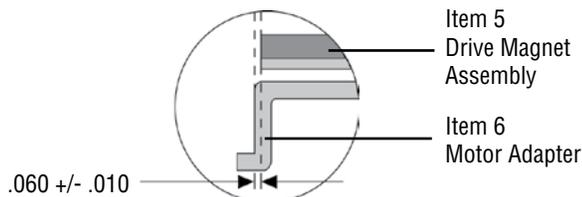

Figure 1
3. Install motor adapter (item 6) onto motor with labels at top using items 10 and 11.
4. Remove drive mag assembly (item 5) from box and slide assembly onto motor shaft making sure shaft key (item 12) is in place. Installation dimension is .060 +/- .010 inches as shown in Figure 1. Tighten 2 set screws (item 5A) to 228 in-lbs. (25.8 N-m).